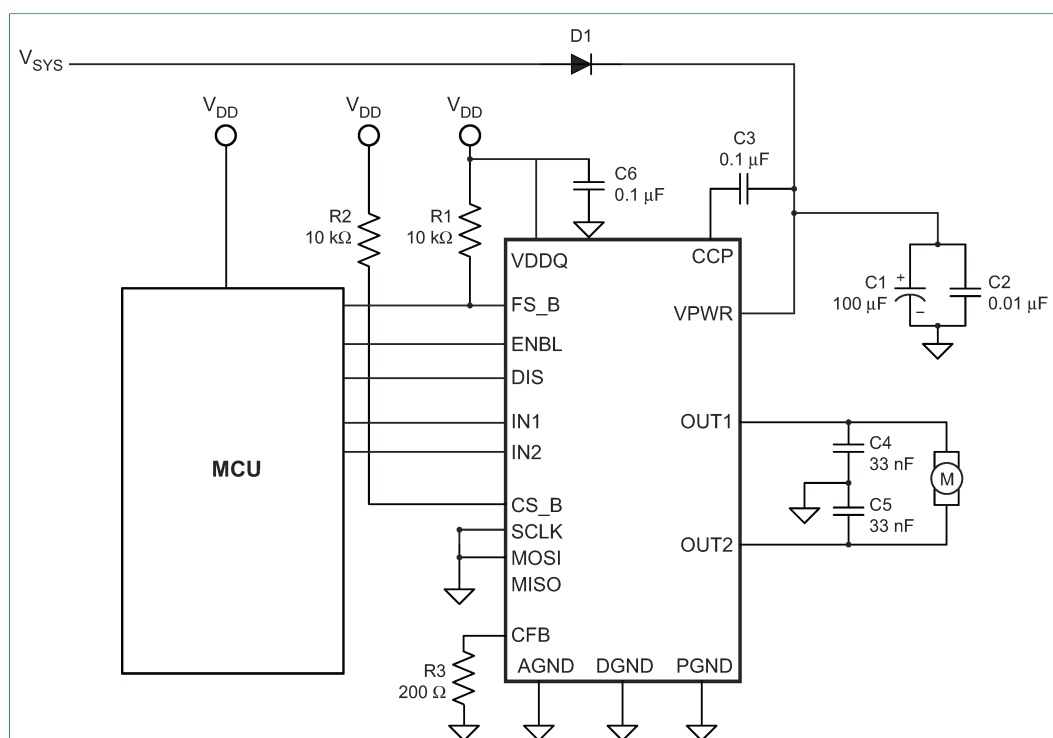
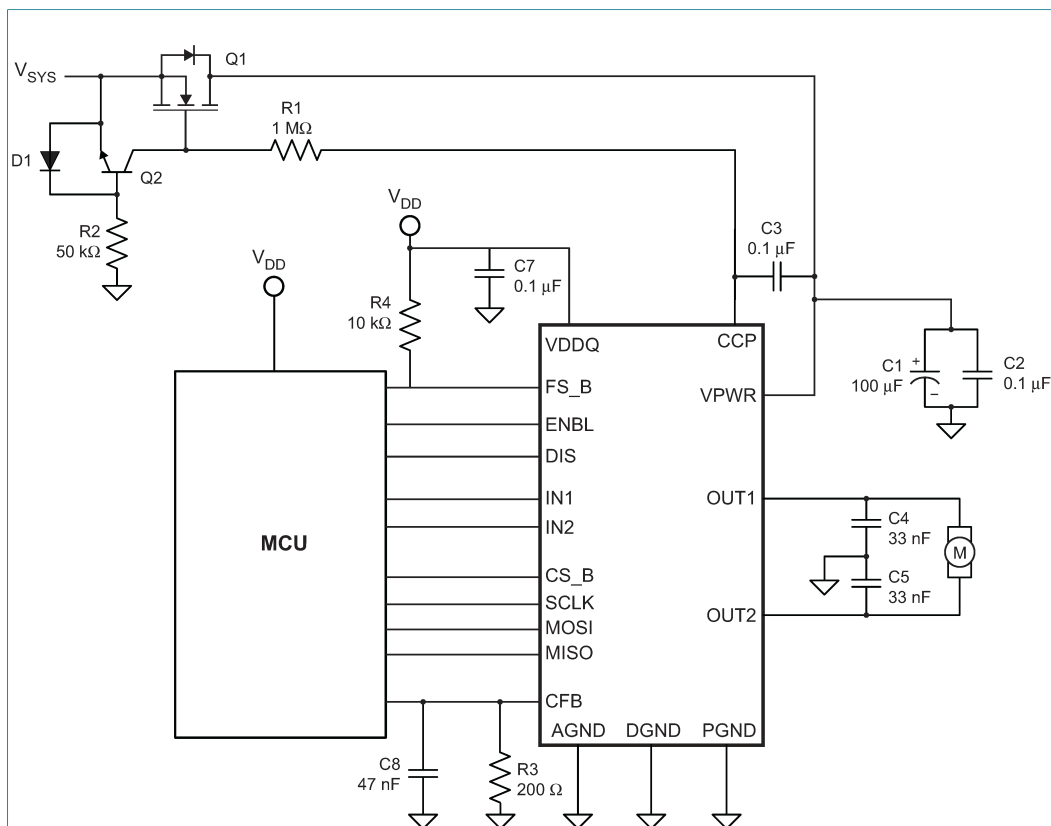

Figure 22. Simplified minimum application schematic (Reverse battery protection using a diode and operation without SPI)
Figure 23. Simplified typical application schematic (Reverse battery protection with an external inverted N-channel MOSFET and operation with SPI)
3.0 A and peaks over 10.0 A. Figure 22 shows a typical simplified minimum application schematic without SPI interface to MCU and reverse battery protection through a diode. Figure 23 shows a typical simplified application diagram with reverse battery protection using an external N-channel FET driven by the CCP pin. This is useful for low battery voltage applications where diode drops could be significant. See Section 8.3.1 "Reverse battery" for details on reverse battery protection.